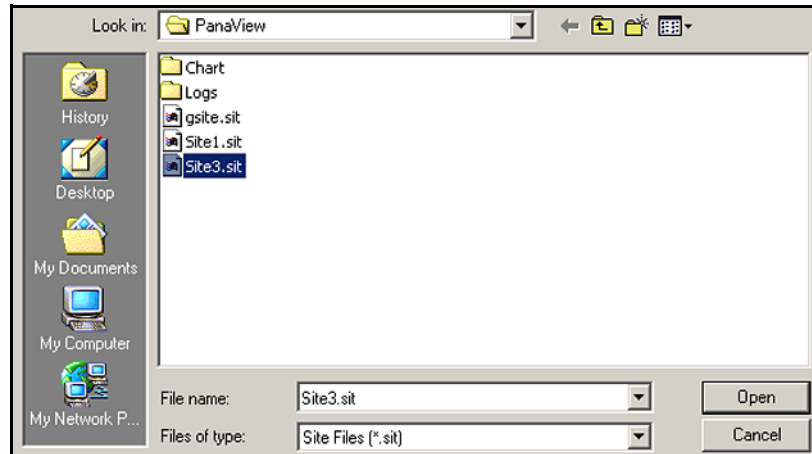

Figure 31: Site File Selection
2. Click on the *Save Site to Meter* button to open a screen similar to *Figure 31* below.
3. The *Site File Selection* screen (see *Figure 31* above) opens. Highlight a site file with the desired settings, and click [Open]. *PanaView* saves the site file in the meter with the new name and the desired settings.
3. A *Site File Selection* screen similar to *Figure 31 on page 114* opens. Enter the desired site file name (now with a .prt suffix) and click [Save]. *PanaView* displays a text version of the site, as shown in *Figure 33* below.